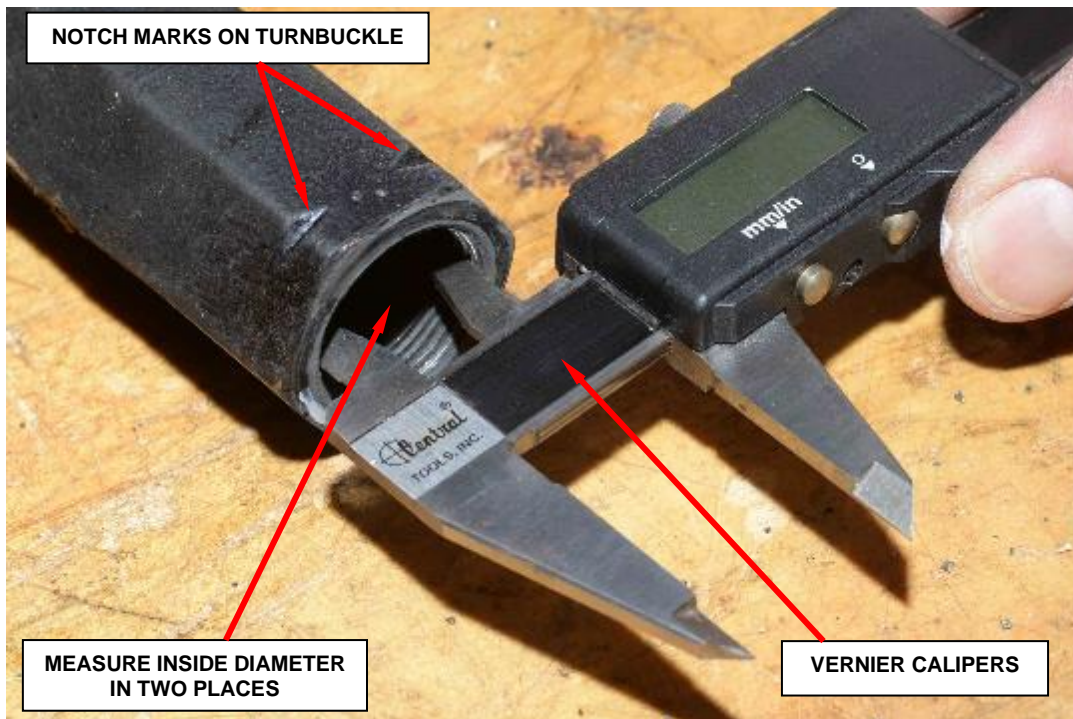

Figure 5 – Measure Inside Diameter of Turnbuckle at Notched End
- Using Vernier Calipers, measure and record the inside diameter of the turnbuckle (end with notch marks on hex) (Figure 5).